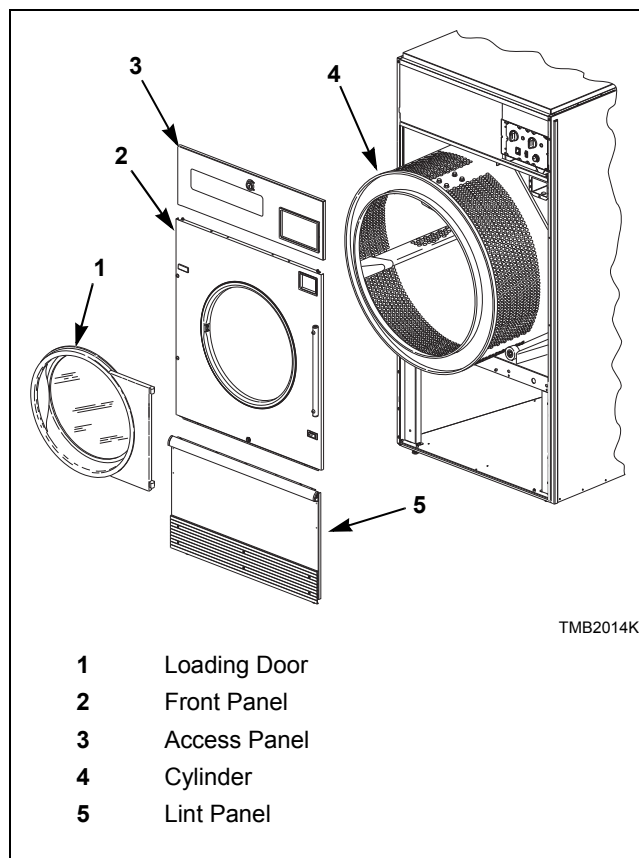

Figure 3
1. Remove the loading door, access panel, front panel and lint panel. Refer to *Figure 3*.
5. Pull the cylinder out through the front of the tumble dryer. Refer to *Figure 3*.